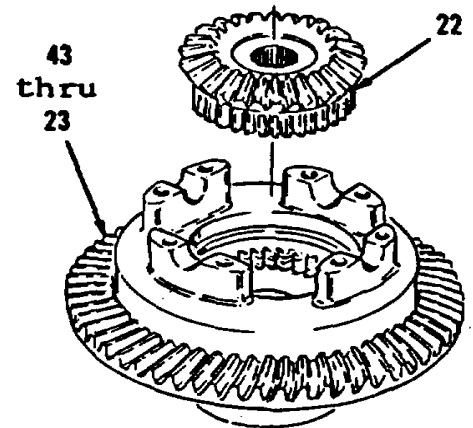
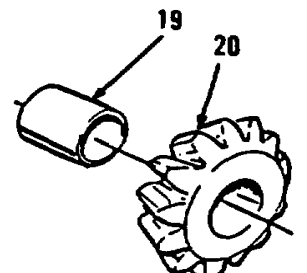

Figure 14-127.
Figure 14-126.
15. Turn items 43 thru 42 as an assembly (Figure 14-127) upside down.
16. Install gear (22).
17. Using step plate and arbor press, install four bearings (19) on pinions (20, Figure 14-126).